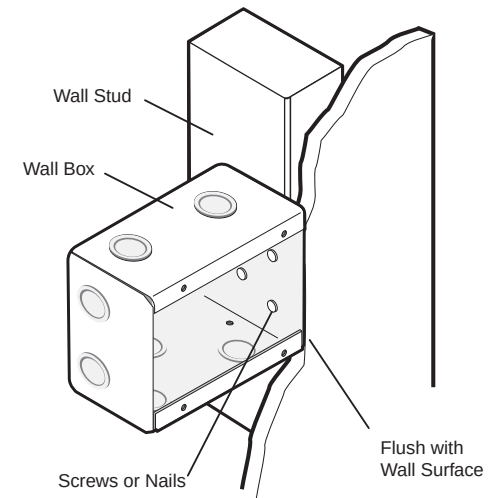

Figure A-4 — Attaching a wall box to a wall stud
- 7b. If you are using a wall box, insert the wall box into the opening, and attach it to the wall stud/furniture with nails or screws, leaving the front edge flush with the outer wall or furniture surface (figure A-4). The illustration applies to both two-gang and four-gang wall boxes.